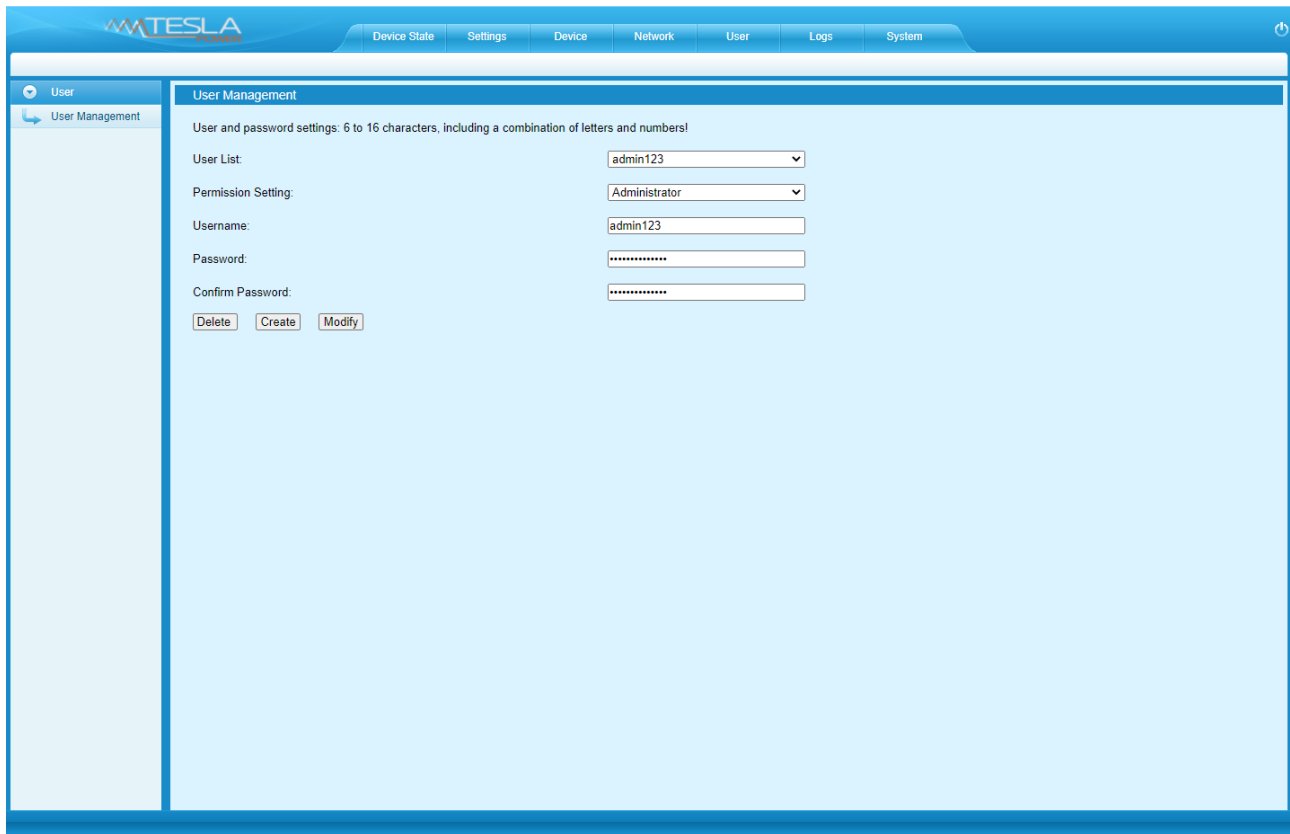

Figure 1-18
- d. Permission settings: Click permission setting and select the Administrator or normal user from the drop-down list, then click Save button. See figure 1-18